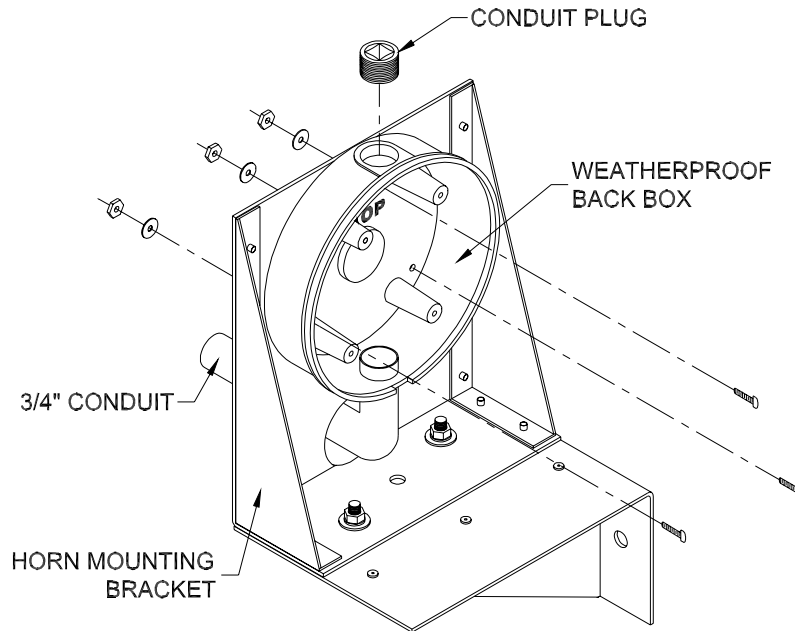

Figure 12 Back Box Mounting Points
10. Attach the weatherproof back box to the mounting bracket using the provided 8-32 x $\frac{1}{2}$ " Phillips head machine screws, #8 split-lock washers, and 8-32 hex nuts as shown in figure 12.